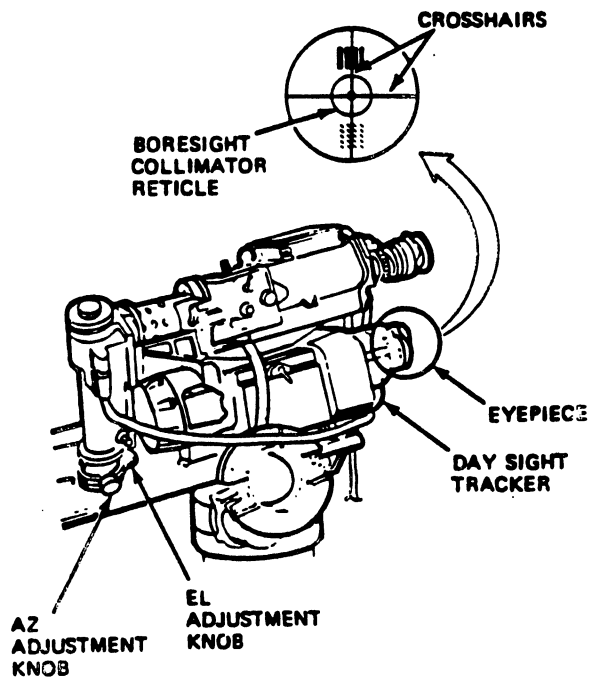

Fig 3-26. Adjustment knobs/sight picture.
Step 2. Adjust the boresight collimator EL and AZ adjustment knobs to align the boresight collimator reticle with the day sight tracker crosshairs (fig 3-26).